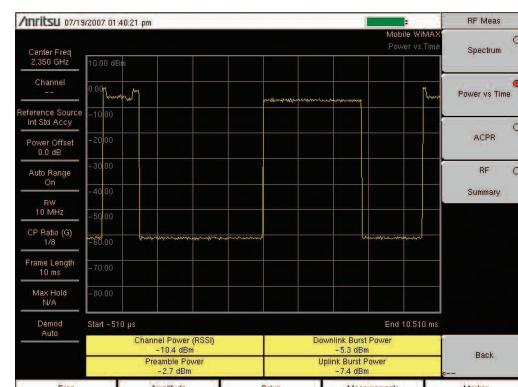

Figure 2. Power versus Time view.
5. Press the Power versus Time soft key to activate the measurement. The red dot on the soft key indicates it is selected (Figure 2).